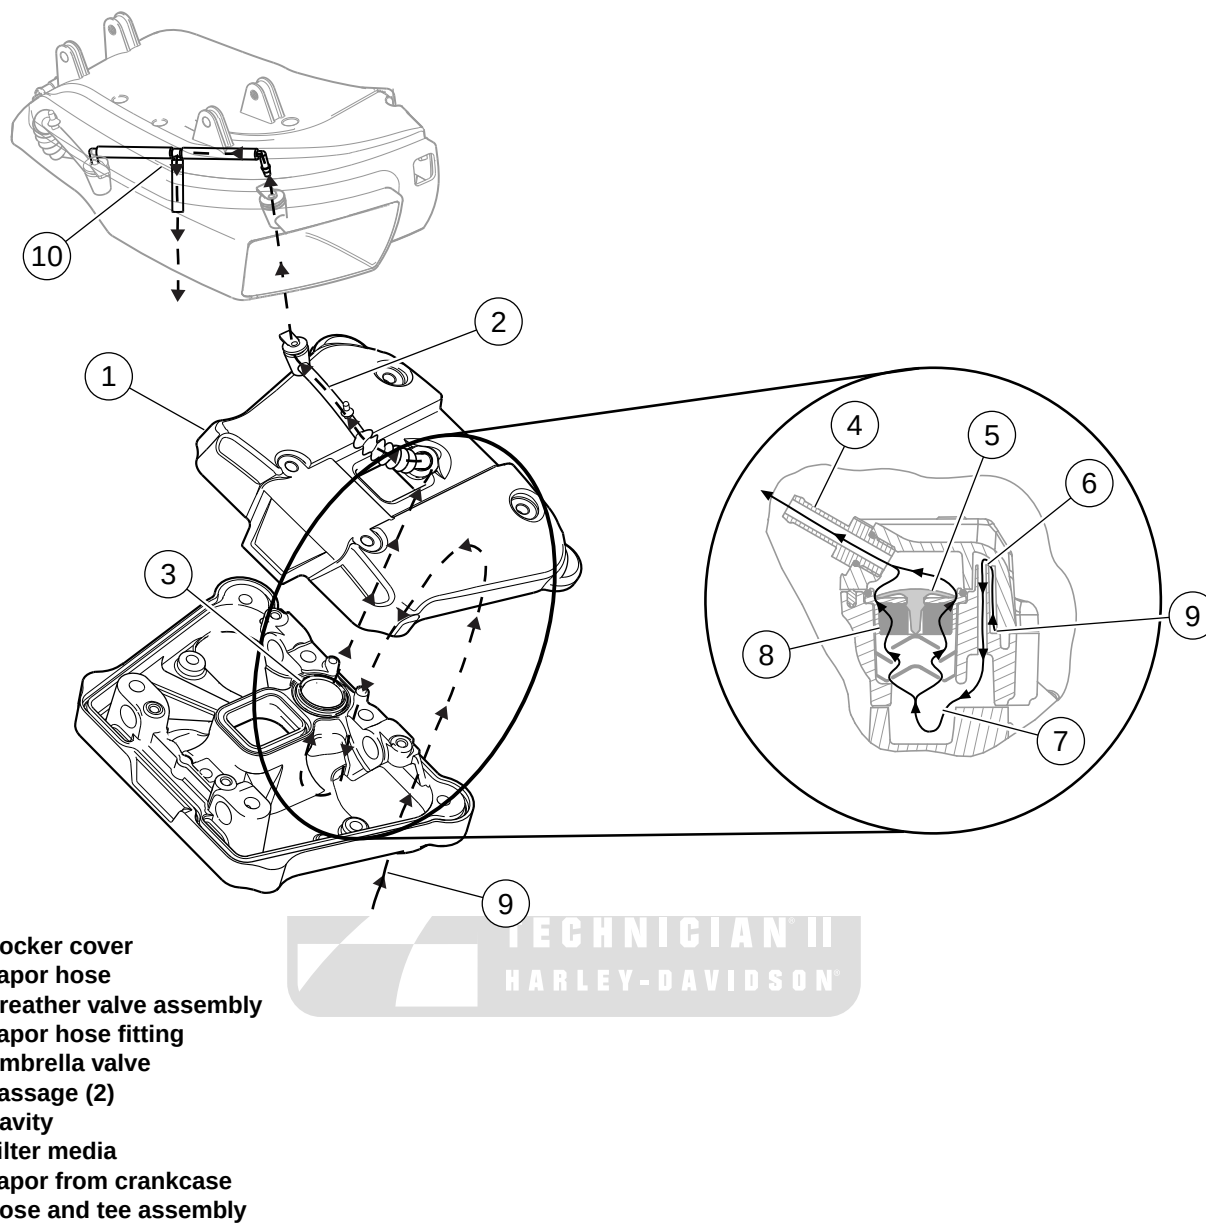

Figure 3-7. Crankcase Breathing System: XR Models
See Figure 3-7. During the piston downstroke, internal crankcase pressure increases, forcing a vapor (9) of crankcase air and oil mist into the area around the rocker arms and valve springs. The vapor travels down through two passages (6) in the inner rocker cover into a cavity (7) between the cylinder head and inner rocker cover. The vapor then moves into the filter media (8) of the breather valve (3).